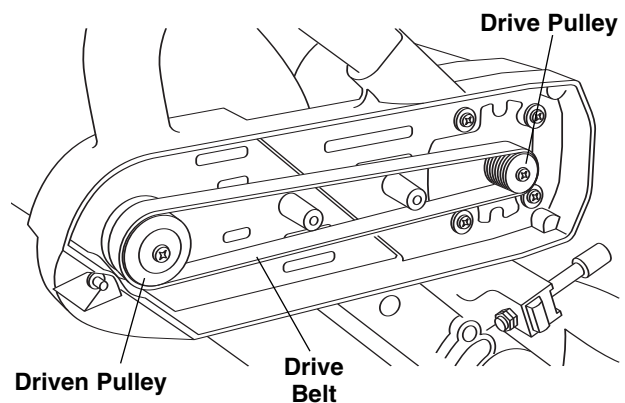

Figure 2. Belt Changes
3. Cut and remove the worn drive belt (Figure 2). Before installing the new drive belt, clean both pulleys thoroughly.